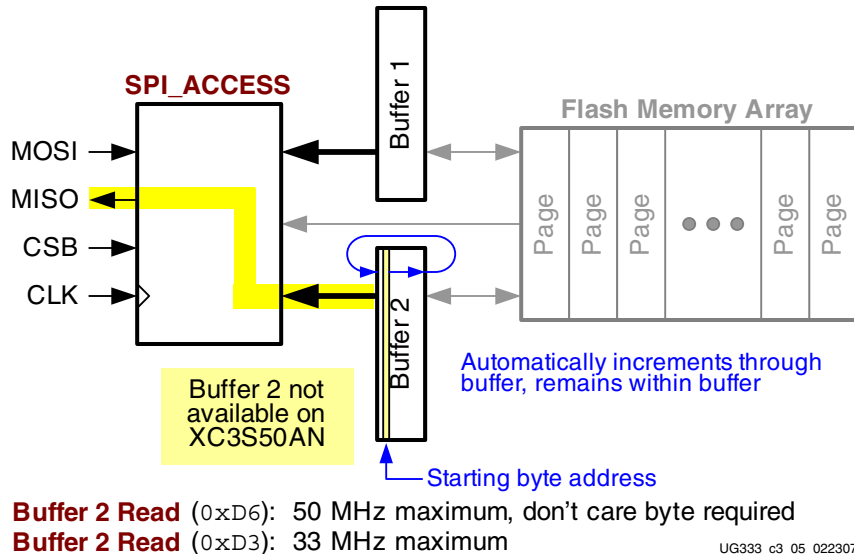

Figure 3-5: Buffer Read Command
The FPGA application can independently access the SRAM data buffers separately from the ISF memory array, as shown in Figure 3-5. The Buffer Read command sequentially reads data directly from the selected buffer. When reading data from the buffer, first load data into the buffer from an ISF memory page using the Page to Buffer Transfer command.
- ♦ The starting byte location can be anywhere in the ISF memory array, located on any page, as shown in Figure 3-5.
- ◆ While CSB is Low, new data appears on the MISO output on every subsequent falling CLK edge. The ISF memory automatically increments the implied address counter through contiguous memory locations, as highlighted in Figure 3-5, regardless of the address mode.